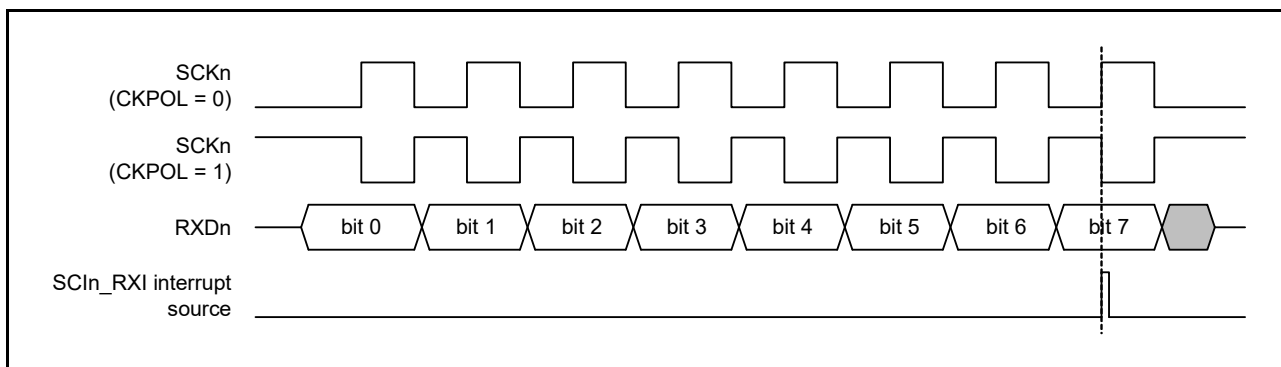

Figure 29.79 Timing of SCIn\_RXI interrupt in simple SPI mode with clock delay
(1) Master mode
- For the clock delay setting (SPMR.CKPH bit is 1), the receive data full interrupt (SCIn\_RXI) is generated before the final clock edge on the SCKn pin, as indicated in Figure 29.79. If the TE and RE bits in the SCR become 0 before the final edge of the clock signal on the SCKn pin, the SCKn pin is placed in the high-impedance state, so the width of the last clock pulse of the transfer clock is shortened. Additionally, an SCIn\_RXI interrupt might lead to the input signal on the SSn pin of a connected slave going to the high level before the final edge of the clock signal on the SCKn pin, leading to incorrect operation of the slave.